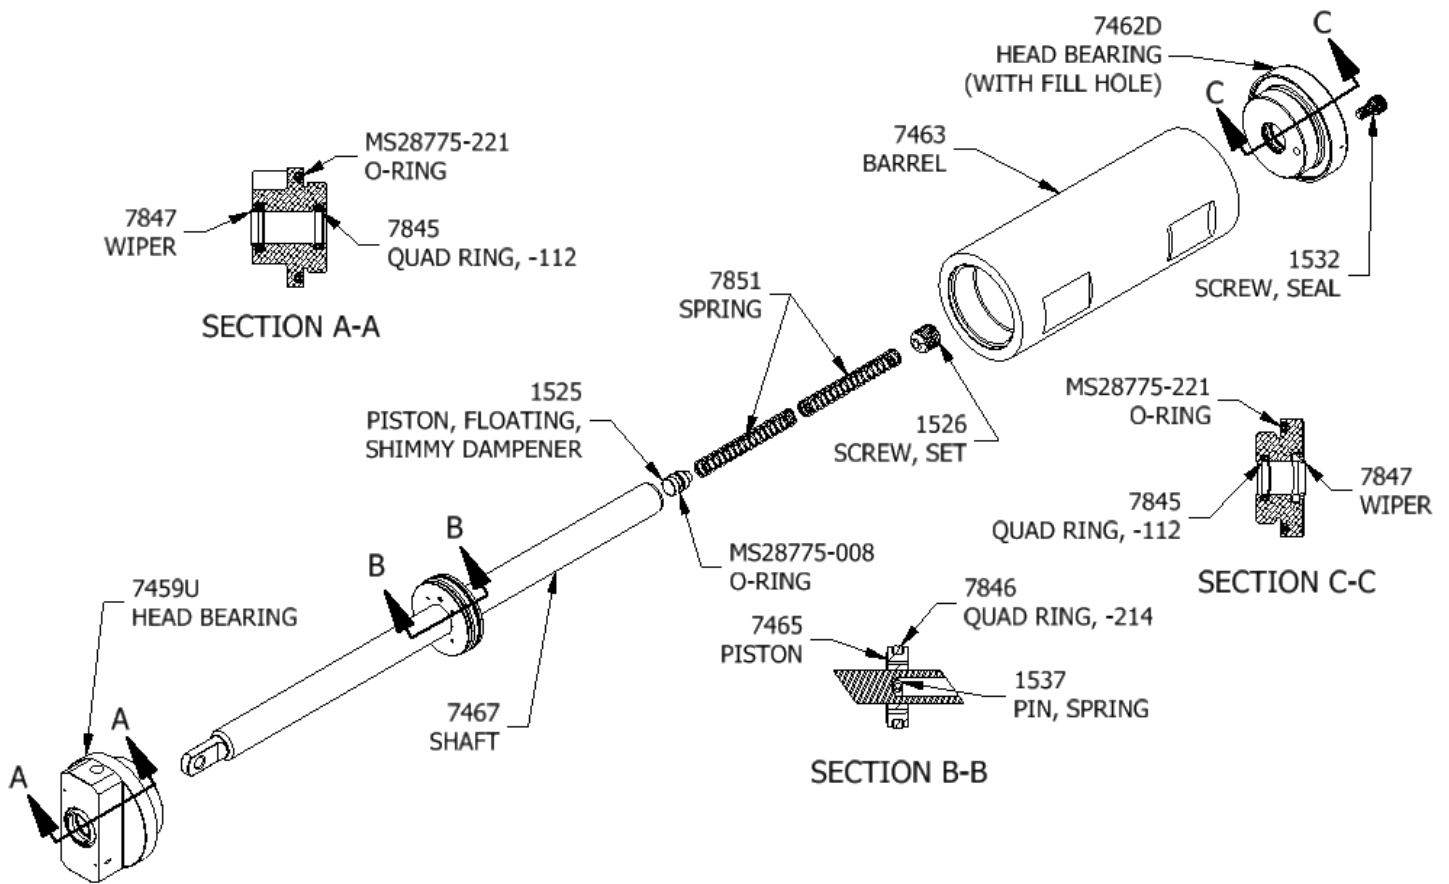

Figure 1: Subcomponent Part Numbers
The following service information is to be utilized when servicing the McFarlane Shimmy Dampener Assembly. NOTE: McFarlane Aviation, LLC. seal kit SDKT-8 and replacement parts are available for purchase if the originals are not re-usable (See Figure 1 for subcomponent part numbers).
See Figure 1 for reference.
- 7) Install the head bearings onto the shaft and thread them into the barrel. Ensure the shaft orientation, with respect to the head bearings, is correct (see Figure 1). Tighten the head bearings to the barrel with a torque of 50 ft-lbs.